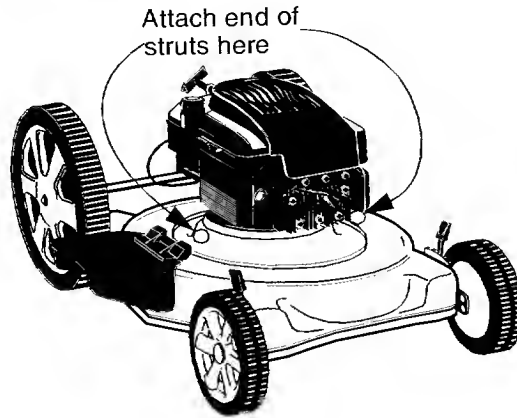

FIGURE 8
- Insert carriage bolt up through hole in deck beside the engine and through the strut. Secure with lock washer and hex nut from the hardware pack. Repeat step on the other side. See Figure 8.